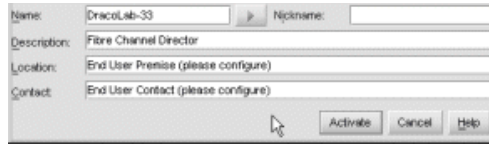

Figure 18: Configure Identification dialog box
1. At the **Hardware View** page for the selected switch, choose **Configure > Identification**. The Configure Identification dialog box displays (Figure 18).